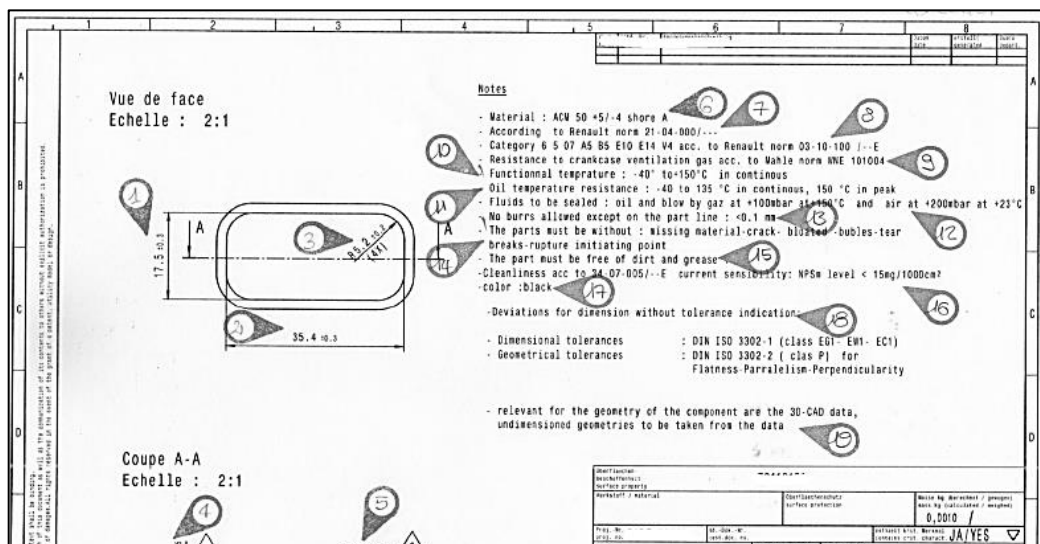

FIGURE 1: Explanation of how to balloon text-requirements on drawings
- All requirements need to be ballooned with single number (not one number for all text-requirements) (ex. **Figure 1**)